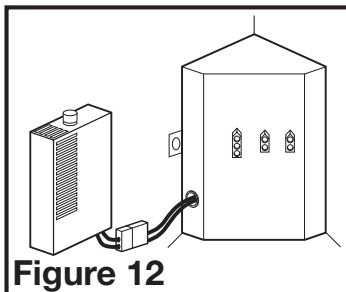

Figure 12
- 3b. **HUMIDITY SENSING MODELS:** Plug the fan's 2 pin and 3 pin quick connect motor cords into the corresponding receptacle located on the wire compartment cover. Connect the two pin connector from the humidistat compartment to the two pin connector from the side of the wire compartment cover. These cords will only fit one way into the receptacles (**Figure 12**).